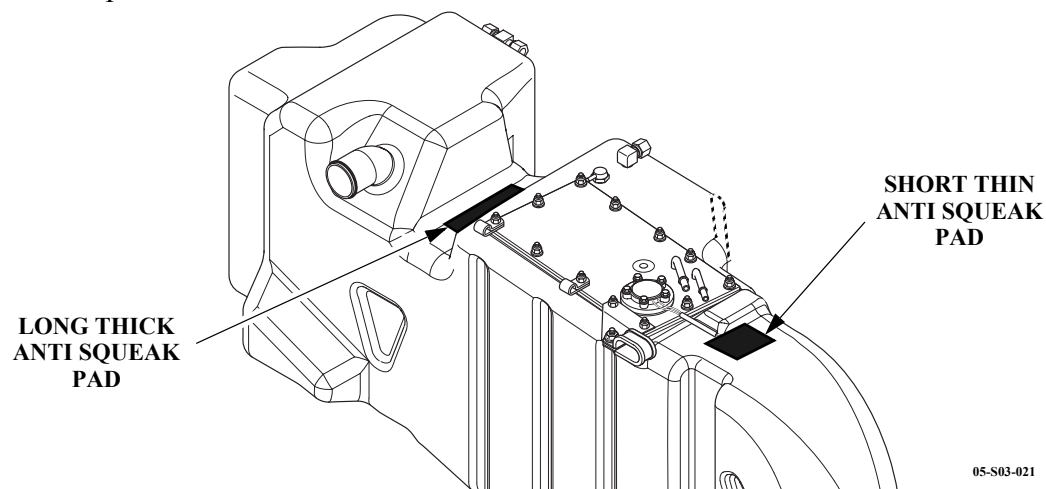

Figure 4: Anti Squeak Pad Location
23. Remove the protective backing and stick the new anti-squeak pads on the top of the new tank in the locations illustrated (See Figure 4). The longer, thicker pad is to be installed at the rear location and the shorter, thinner pad at the front location.